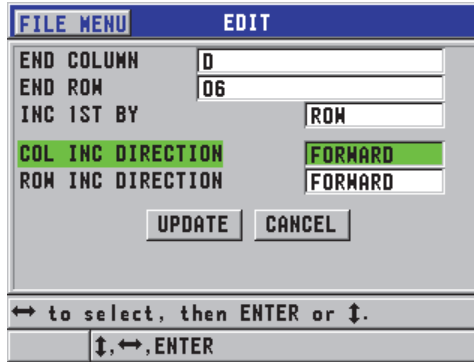

Figure 6-30 Displaying the grid edit screen
3. For a grid file, select **CONTINUE**, and then perform the following actions in the second page of the **EDIT** screen (see Figure 6-30 on page 111):